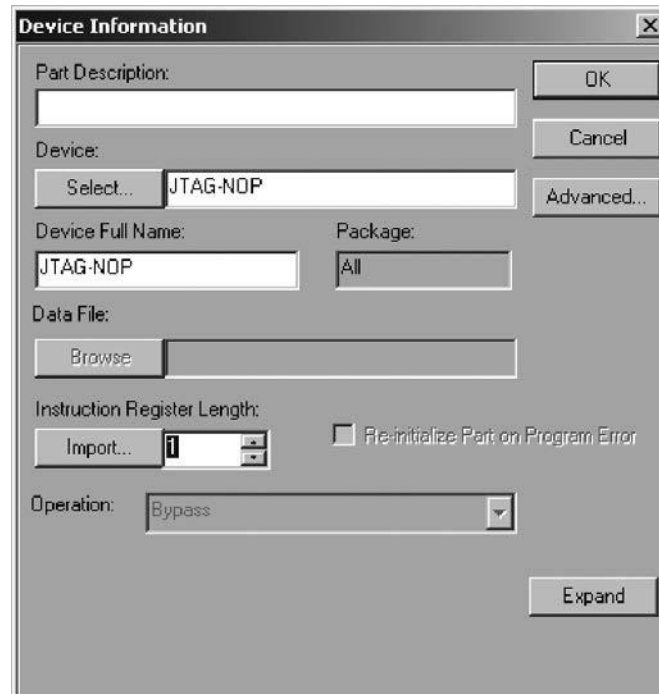

Figure 3.6. Representation of the Synchronization Bit
- Active ports always have a one-bit synchronization register at the beginning of the local port. This should be represented with a JTAG-NOP device with an instruction register length of '1', as shown in Figure 3.6.